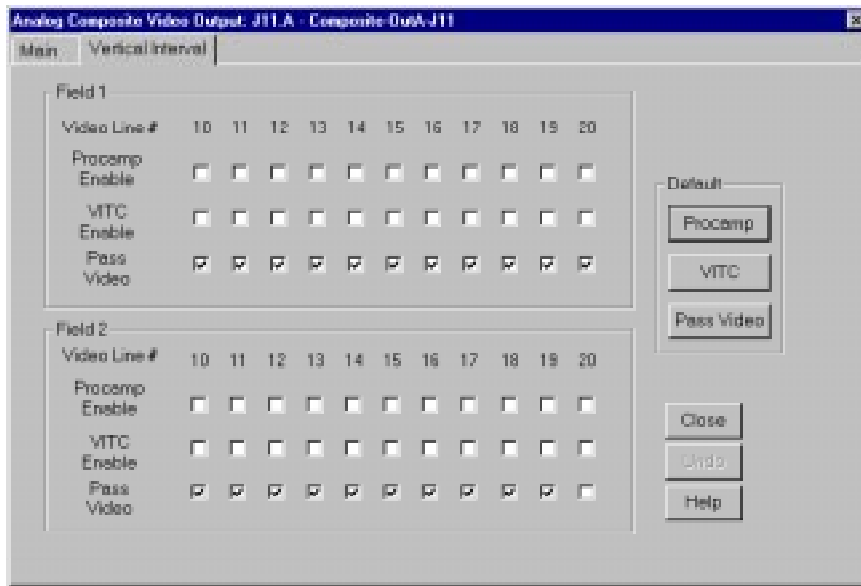

Figure 22. Analog Composite Video Input Vertical Interval tab
1. Click the **Vertical Interval** tab to view the vertical interval controls. The vertical interval line numbers change depending on the selected video standard (see Figure 22).